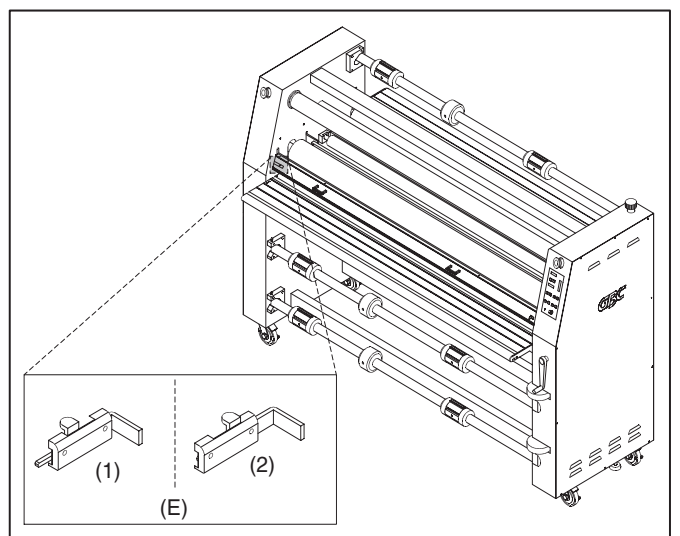

Fig 10
E. SAFETY SHIELD INTERLOCK LATCH: (Figure 10)